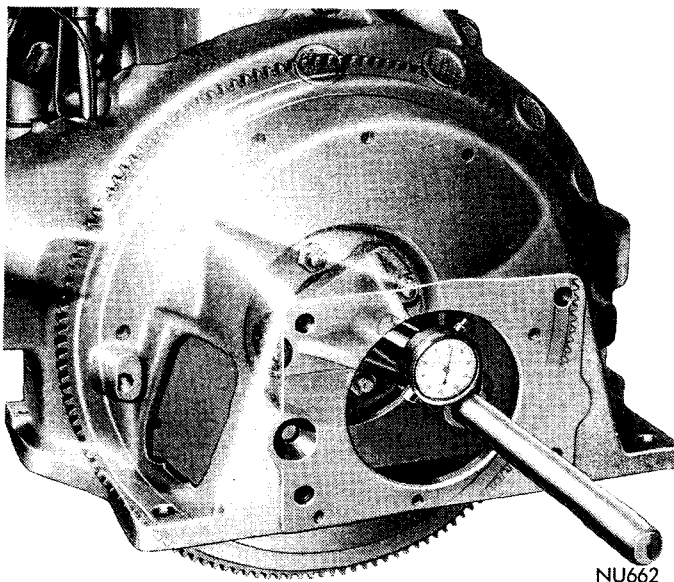

Fig. 7—Bore Runout Inspection
(1) On vehicles equipped with a two-piece clutch housing (flywheel housing and bell housing), it will be necessary to use dial indicator set, Tool C-3339.
(2) With flywheel turning Tool C-771, crank engine while noting dial indicator needle deflection. Out-of-round of bore must not exceed .010 inch total indicator reading (Fig. 7).